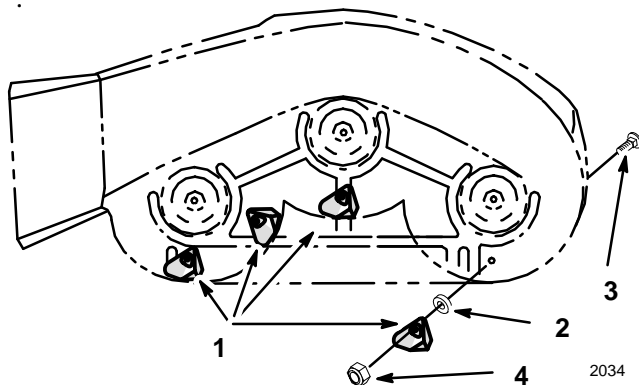

Figure 1
Place spacers and kickers inside the mower, over the holes provided (Fig. 1). Remove any hardware installed in these holes and save for reinstallation if the kickers are removed. Secure the kickers with (4) 5/16–18 x 3/4" (19 mm) carriage bolts, (through from the top side of the mower) and (4) 5/16" locknuts (Fig. 1).